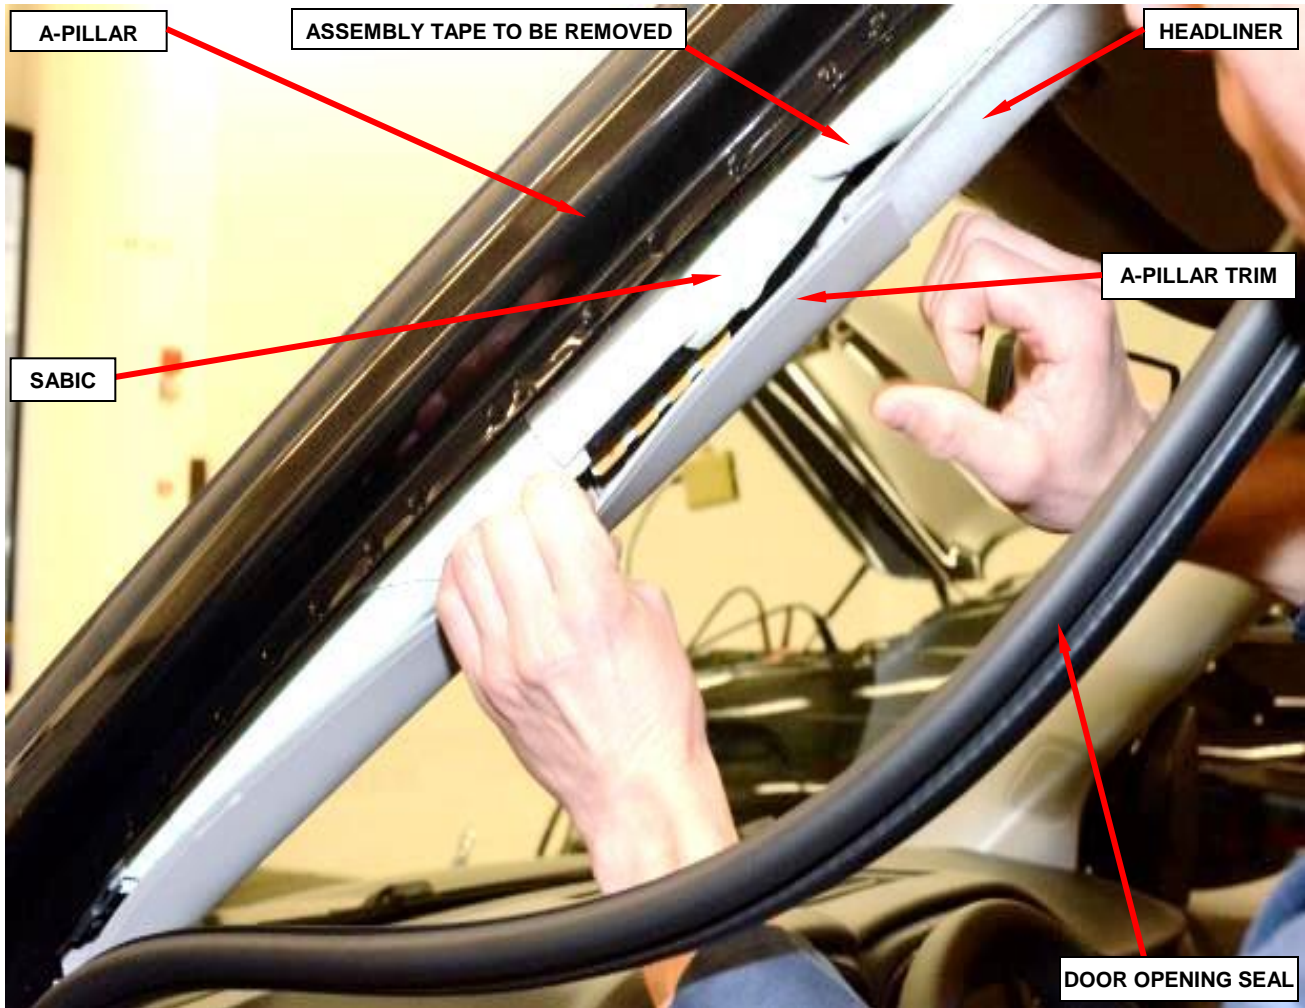

Figure 2 – A-Pillar Trim
4. Partially remove the left A-Pillar trim from the left A-Pillar keeping about a three inch opening to access the SABIC (Figure 2).
7. Install the left A-Pillar trim to the left A-Pillar (Figure 2).